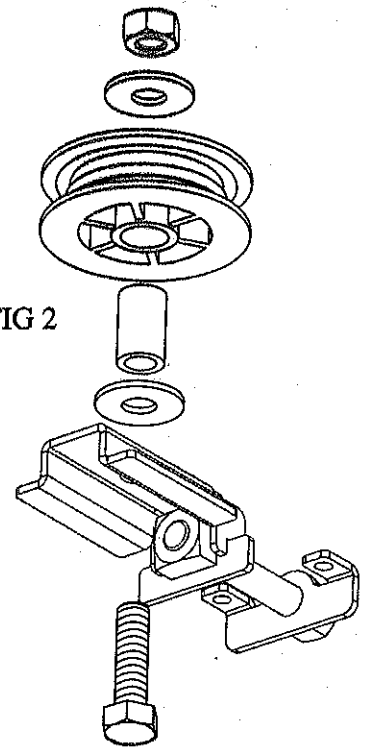

FIG 3
8. Tighten Belt Tension Bolt to remove slack as shown. FIG 3. Or see Owners Manual.